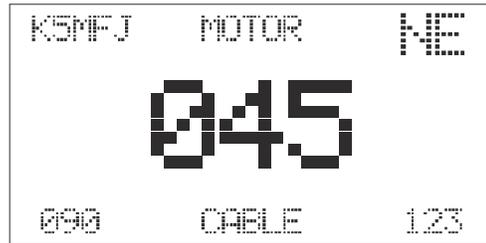

Figure 4 LCD Display
- The DCU-3 display should look similar to the display shown in Figure 4. The numeric display in the center indicates the current bearing of your rotator. The numeric display in the lower right corner indicates the target bearing that is manually set. The numeric display in the lower left indicates target bearing that is computer set. The character display in the upper right corner indicates the compass heading in "NESW" format. The alphanumeric display in the upper left corner is where the call sign is displayed if programmed. If the center display reads a steady "999", disconnect your control cable and check the cable wiring with an ohmmeter. See the section "Checking the Rotator Resistances from the Ground". Proceed if the cable checks OK. 999 also indicates that the cable may not be plugged in or the right stop has not been set.